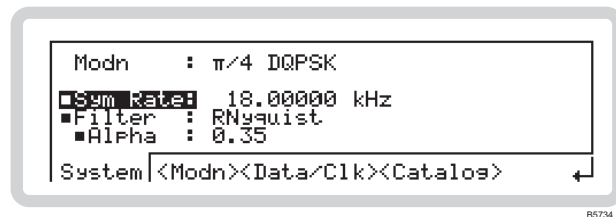
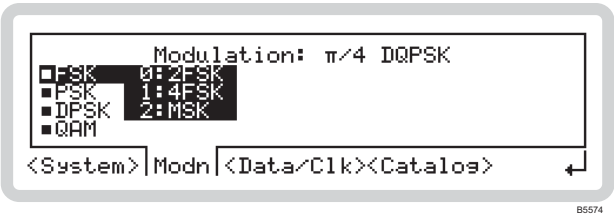
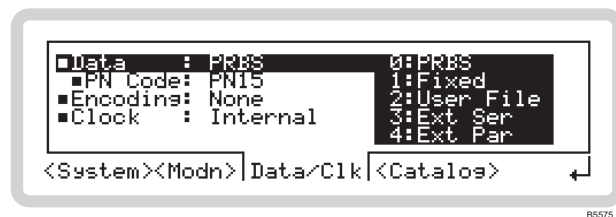

Fig. 3-40 Generic modulation
Fig. 3-41 Modulation type selection
Fig. 3-42 Data and clock source selection
- 2 Press **SIG GEN** to show the main screen, and touch the **IQ** soft box to select the function. Touch **Generic** and press **↓** to view the Generic modulation menu (Fig. 3-40).
From the generic modulation screen of Fig. 3-40, touch <Modn> or press **<TAB>** to display the modulation selection screen (Fig. 3-41).
From the generic modulation screen of Fig. 3-40, touch <Data/Clk> or press to display the data and clock source screen (Fig. 3-42).